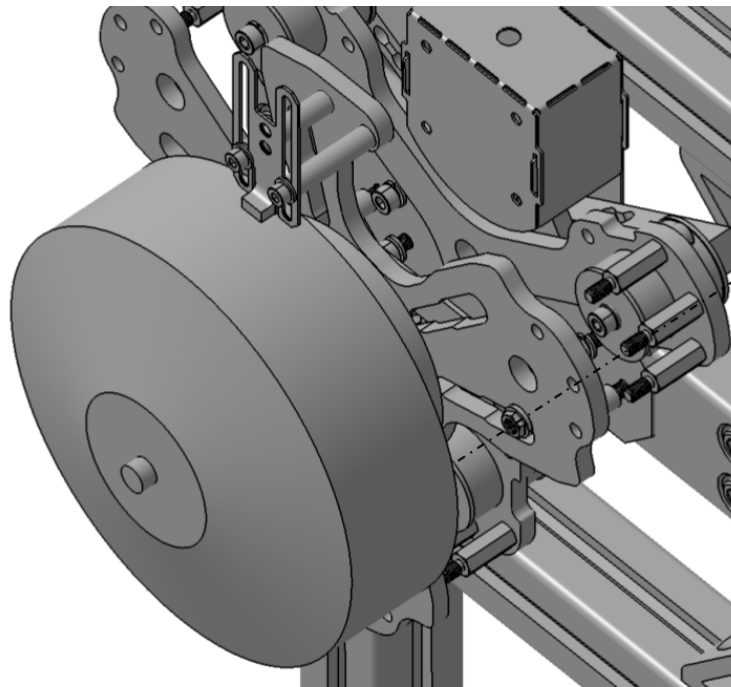

Fig. 4.39: Connection of load measurement unit to motor mount assembly using M5 nuts
- ❑ Rotate the M5 flange locknut (#YTEX) into the male threaded standoffs to fasten the motor mount onto the load measurement unit, as shown in Fig. 4.39: